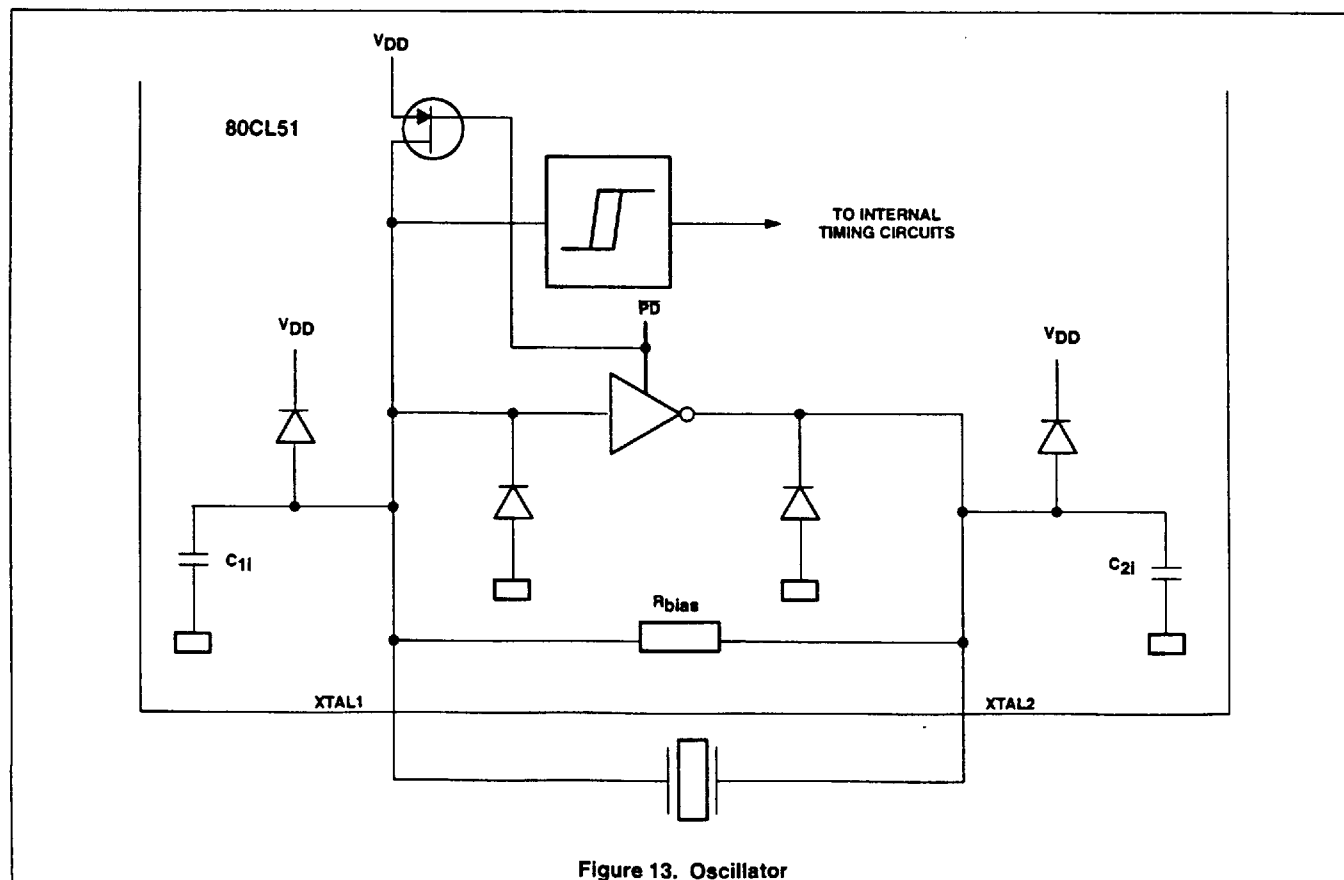
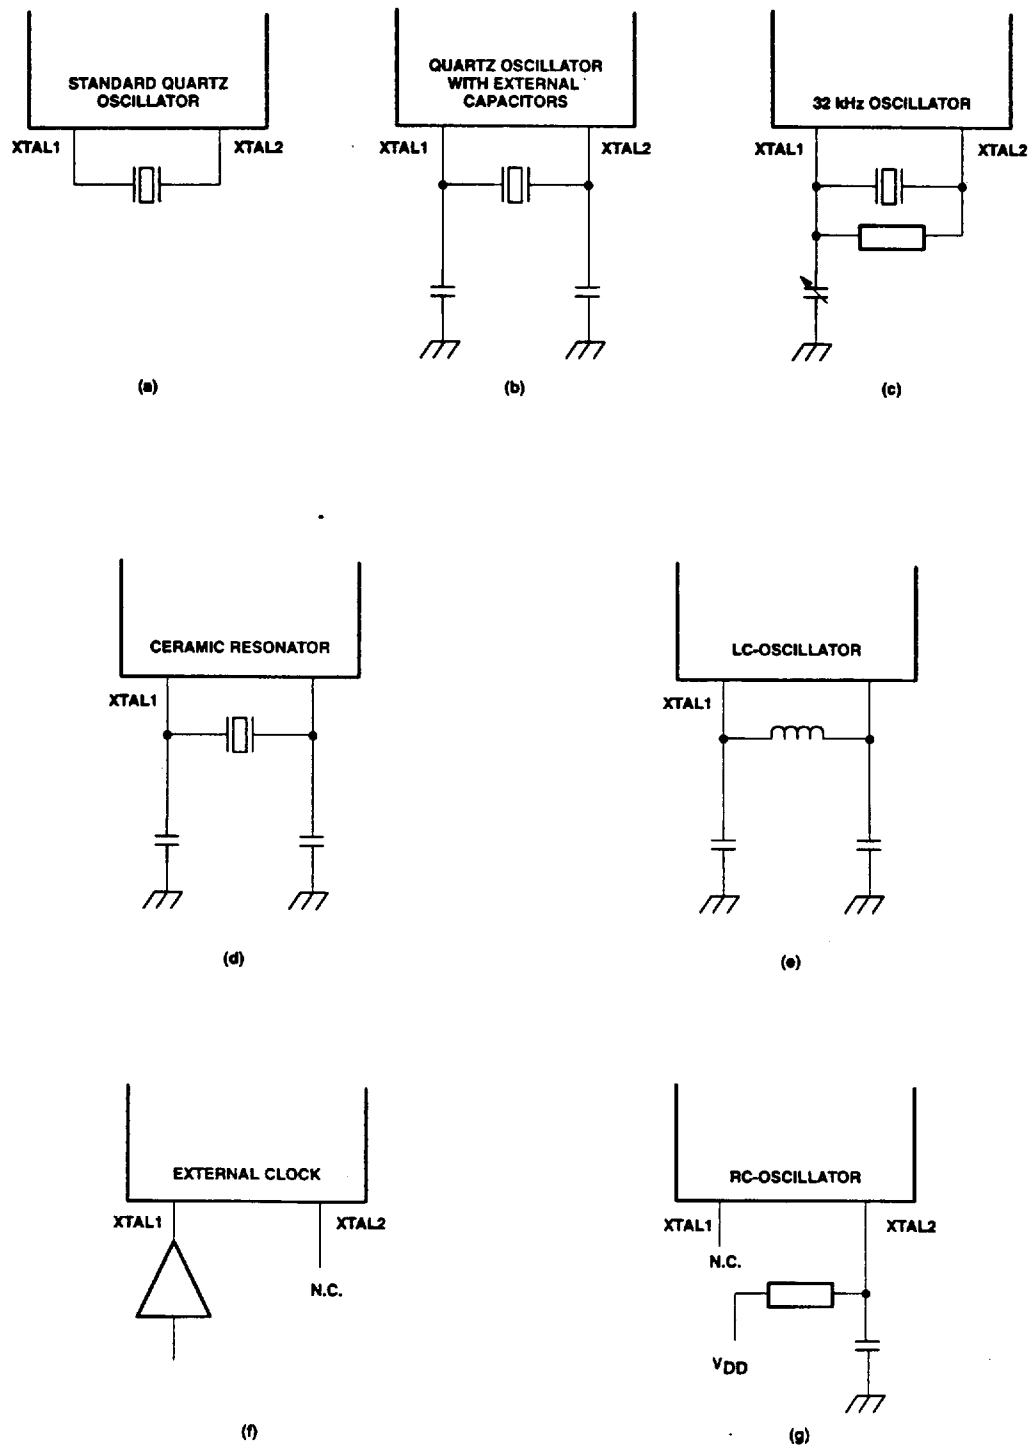

Figure 13. Oscillator
Figure 14. Alternative Oscillator Configurations
The on-chip circuitry of the 80CL51 is a single-stage inverting amplifier biased by an internal feedback resistor (Figure 13). For operation as standard quartz oscillator, no external components are needed except at 32 KHz. When using external capacitors, ceramic resonators, coils and RC networks to drive the oscillator, five different configurations are supported (see Figure 14 and oscillator options).
in Figure 14(f). There are no requirements on the duty cycle of the external clock, since the input to the internal clocking circuitry is split using a flip-flop.
1.7.1 Oscillator options (see Figure 14)
- Osc. 1: : Figure 14(c): An option for 32 kHz clock applications with external trimmer for frequency adjustment. A 4.7 MΩ bias resistor is needed for use in parallel with the crystal.
- Osc. 2: Figure 14(e): An option for low-power, low-frequency operations using LC components.
- RC: Figure 14(g): An option for an RC oscillator.